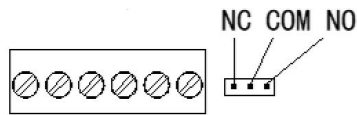

Figure 1.Dry contact
1. Set the dry contact - Putting the jumper to NC and C to set the dry contact as Normally Closed. Putting the jumper to NO and C to set the dry contact as Normally Open , as illustrated in Figure 1.